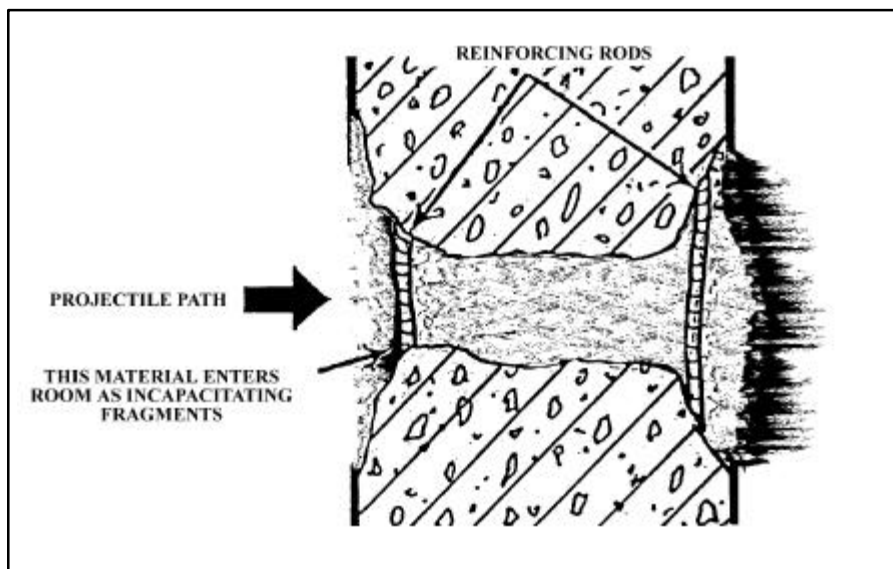

Figure B-14. Tank HEAT Round Effects on Reinforced Concrete Walls
(2) The 120-mm HEAT-MP round arms at about 36 feet. This arming distance allows the tank to engage targets from short ranges. The armor of the tank protects the crew from both the blowback effects of the round and enemy return fire. The APFSDS round does not need to arm and can, therefore, be fired at almost any range. The discarding portions of the round can be lethal to exposed infantry forward of the tank.
d. Target Effects. HEAT rounds are most effective against masonry walls. The APFSDS round can penetrate deeply into a structure but does not create as large a hole or displace as much spall behind the target. In contrast to lighter HEAT rounds, tank HEAT rounds are large enough to displace enough spall to inflict casualties inside a building. One HEAT round normally creates a breach hole in all but the thickest masonry construction—brick veneer and wood-framed constructions are demolished by a single round. Even the 120-mm HEAT round cannot cut all of the reinforcing rods, which are usually left in place, often hindering entry through the breach hole (Figure B-14). Both HEAT and APFSDS rounds are effective against all field fortifications. Only large earth berms and heavy mass-construction buildings can provide protection against tank fire.